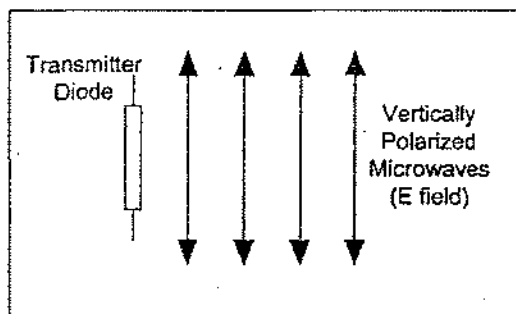
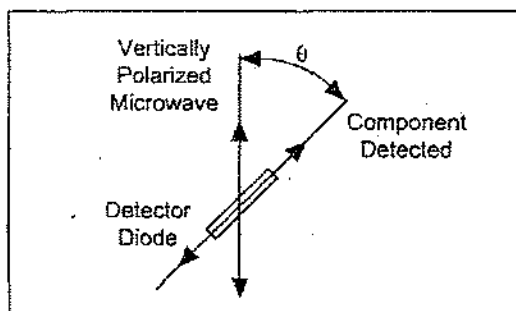

Figure 5.1 Vertical Polarization
Figure 5.2 Detecting Polarized Radiation
The microwave radiation from the Transmitter is **linearly polarized** along the Transmitter diode axis (i.e., as the radiation propagates through space, its electric field remains aligned with the axis of the diode). If the Transmitter diode were aligned vertically, the electric field of the transmitted wave would be vertically polarized, as shown in Figure 5.1. If the detector diode were at an angle θ to the Transmitter diode, as shown in Figure 5.2, it would only detect the component of the incident electric field that was aligned along its axis. In this experiment you will investigate the phenomenon of polarization and discover how a polarizer can be used to alter the polarization of microwave radiation.
- ① If the Receiver meter reading (M) were directly proportional to the electric field component (E) along its axis, the meter would read the relationship $M = M_0 \cos\theta$ (where θ is the angle between the detector and Transmitter diodes and M_0 is the meter reading when $\theta = 0$). (See Figure 5.2). Graph your data from step 2 of the experiment. On the same graph, plot the relationship $M_0 \cos\theta$. Compare the two graphs.
- ② The intensity of a linearly polarized electromagnetic wave is directly proportional to the square of the electric field (e.g., $I = kE^2$). If the Receiver's meter reading was directly proportional to the incident microwave's intensity, the meter would read the relationship $M = M_0 \cos^2\theta$. Plot this relationship on your graph from question 1. Based on your graphs, discuss the relationship between the meter reading of the Receiver and the polarization and magnitude of the incident microwave.
- ③ Based on your data from step 5, how does the Polarizer affect the incident microwave?
- ④ Can you explain the results of step 6 of the experiment. How can the insertion of an additional polarizer increase the signal level at the detector? (HINT: Construct a diagram like that shown in Figure 5.2 showing (1) the wave from the Transmitter; (2) the wave after it passes through the Polarizer; and (3) the component detected at the detector diode.)